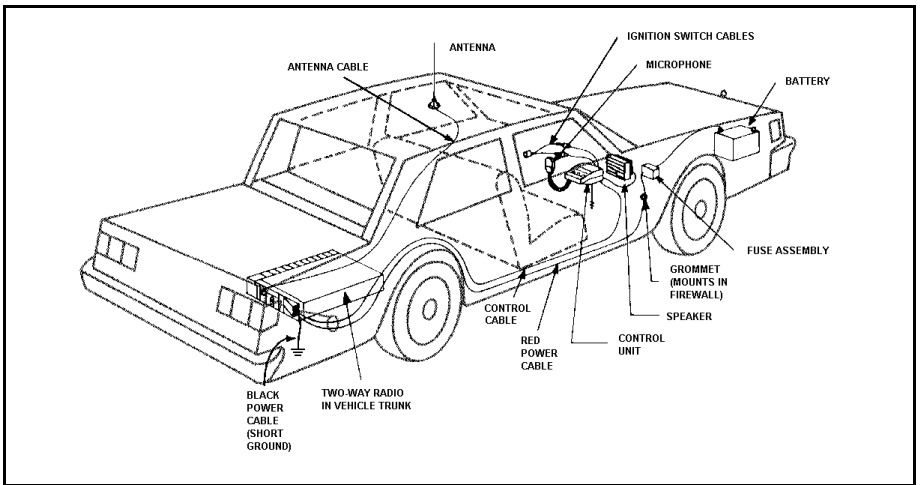

Figure 9 - Typical Cable Routing
If an existing hole is not conveniently located for the passage of the power cable through the firewall, drill a 1-1/8-inch hole and insert the rubber grommet provided. Leave at least 18 inches of slack in the plug end of the cables next to the radio. A typical cable routing diagram is shown in Figure 9.
1. Starting with the plug end of the power/control cable, run the black control cable to the control unit location and the red power cable to the vicinity of the battery. Drill a No. 9 (3/16-inch) pilot hole and connect the short black power cable to a good vehicle ground with the 1/4 x 5/8-inch hex-head self-tapping screw and the two external tooth lockwashers. The external tooth lockwashers are placed on each side of the black power cable ring terminal. Refer to Figure 9, Typical Cable Routing.